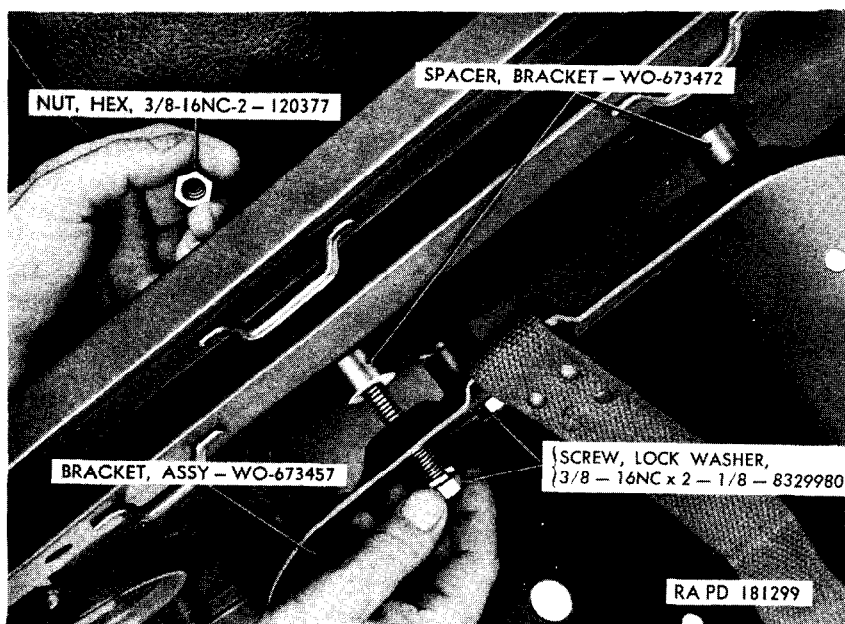

Figure 163. Removing spare fuel can bracket.
b. *Spare Fuel Can Bracket* (fig. 163). Remove the four lockwasher cap screws, bracket spacers, and nuts which secure the bracket assembly to body rear panel and remove bracket assembly from body panel.